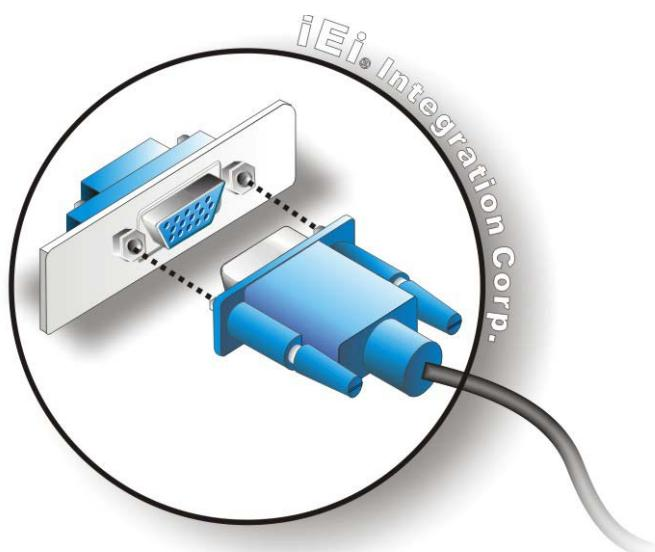

Figure 3-25: VGA Connector
Step 3: Insert the VGA connector Once the connectors are properly aligned with, insert the male connector from the VGA screen into the female connector on the TANK-820-H61. See **Figure 3-25**.